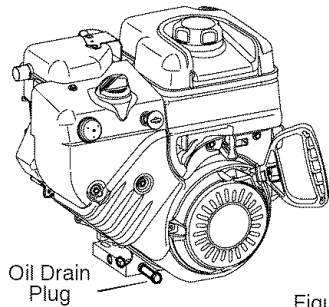

Figure 27
2. When the engine is warm, remove the **oil drain plug** and the **oil fill cap/dipstick** (see Figure 26 and Figure 27). Drain the oil into a suitable container.